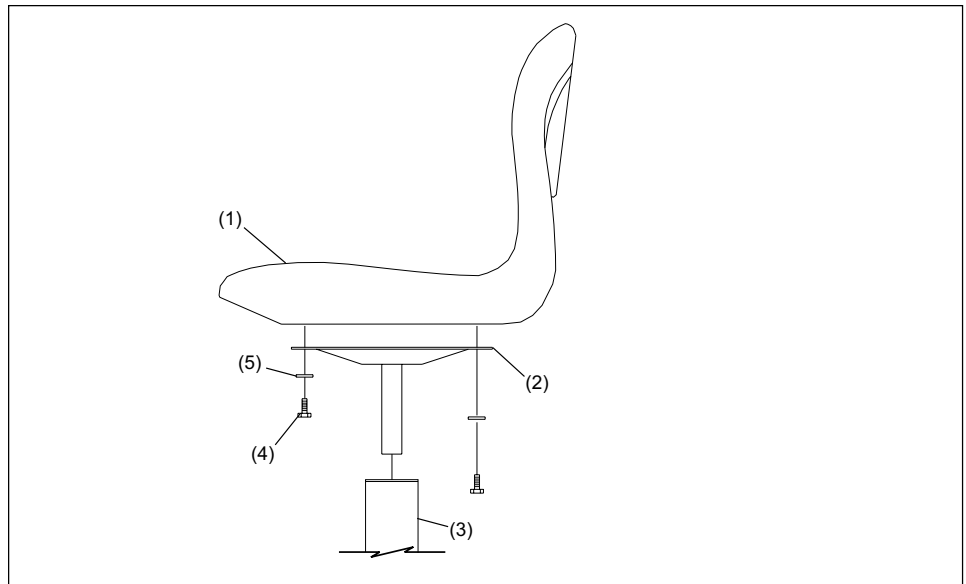

Figure 24. Plastic Seat
1. Assemble seat plate to seat and tighten screws (part # 11-082862-001) with star washers supplied with seat to 25 in/lbs **maximum torque**. Refer to *Figure 24*.